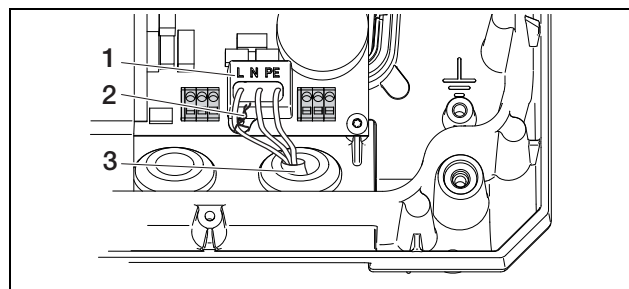

Fig. 14: Mains cable connected (with sealing cap)
- Connect the conductors of the mains cable to the AC terminal in accordance with the labelling (figure 14).